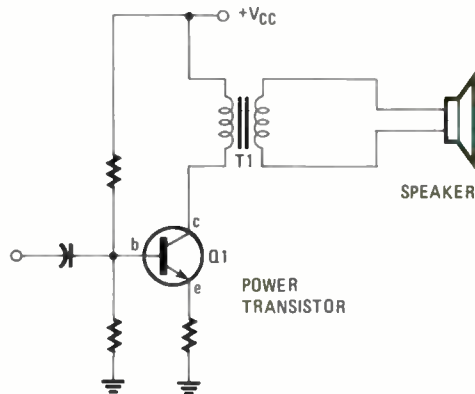
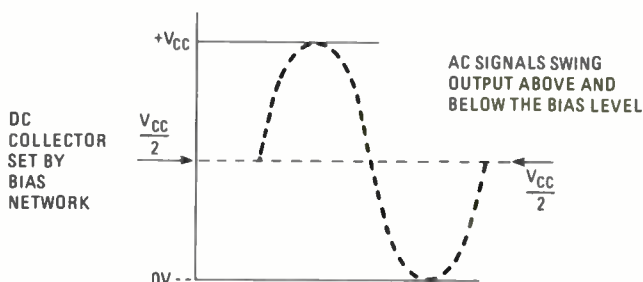

Fig. 19—A common-emitter audio power amplifier. Transformer T1 provides impedance matching to the speaker.
Fig. 20—The output voltage of an amplifier is limited by $+V_{CC}$ and ground.
48. (coil) Common-emitter amplifiers provide power gain as well as voltage gain. Heavy-duty transistors capable of withstanding higher voltage and current are used as power amplifiers. Such a circuit is shown in Fig. 19. It is a configuration you are already familiar with. The primary of transformer T1 replaces the collector resistor. The transformer provides impedance matching that steps the high Z_o of the amplifier down to the low speaker impedance, usually 8 to 16 ohms. The amplifier provides the power to operate the speaker.
Impedance matching in Fig. 19 is provided by the _____.
50. (continuous, linearly) A class A amplifier operates properly as long as it is correctly biased and the amplitude of the input signal is not too great. The biasing network is designed to set the base current to a value that will cause the DC collector voltage to be about one half of the power supply voltage (V_{CC}), a value that is approximately at the center of the linear range. With this condition, if an AC input signal is applied the collector output can vary up to $+V_{CC}$ and down to as low as zero volts (ground) if no emitter resistor is used. (See Fig. 20.) $+V_{CC}$ and zero are the maximum and minimum output voltages for the circuit shown in Fig. 19.